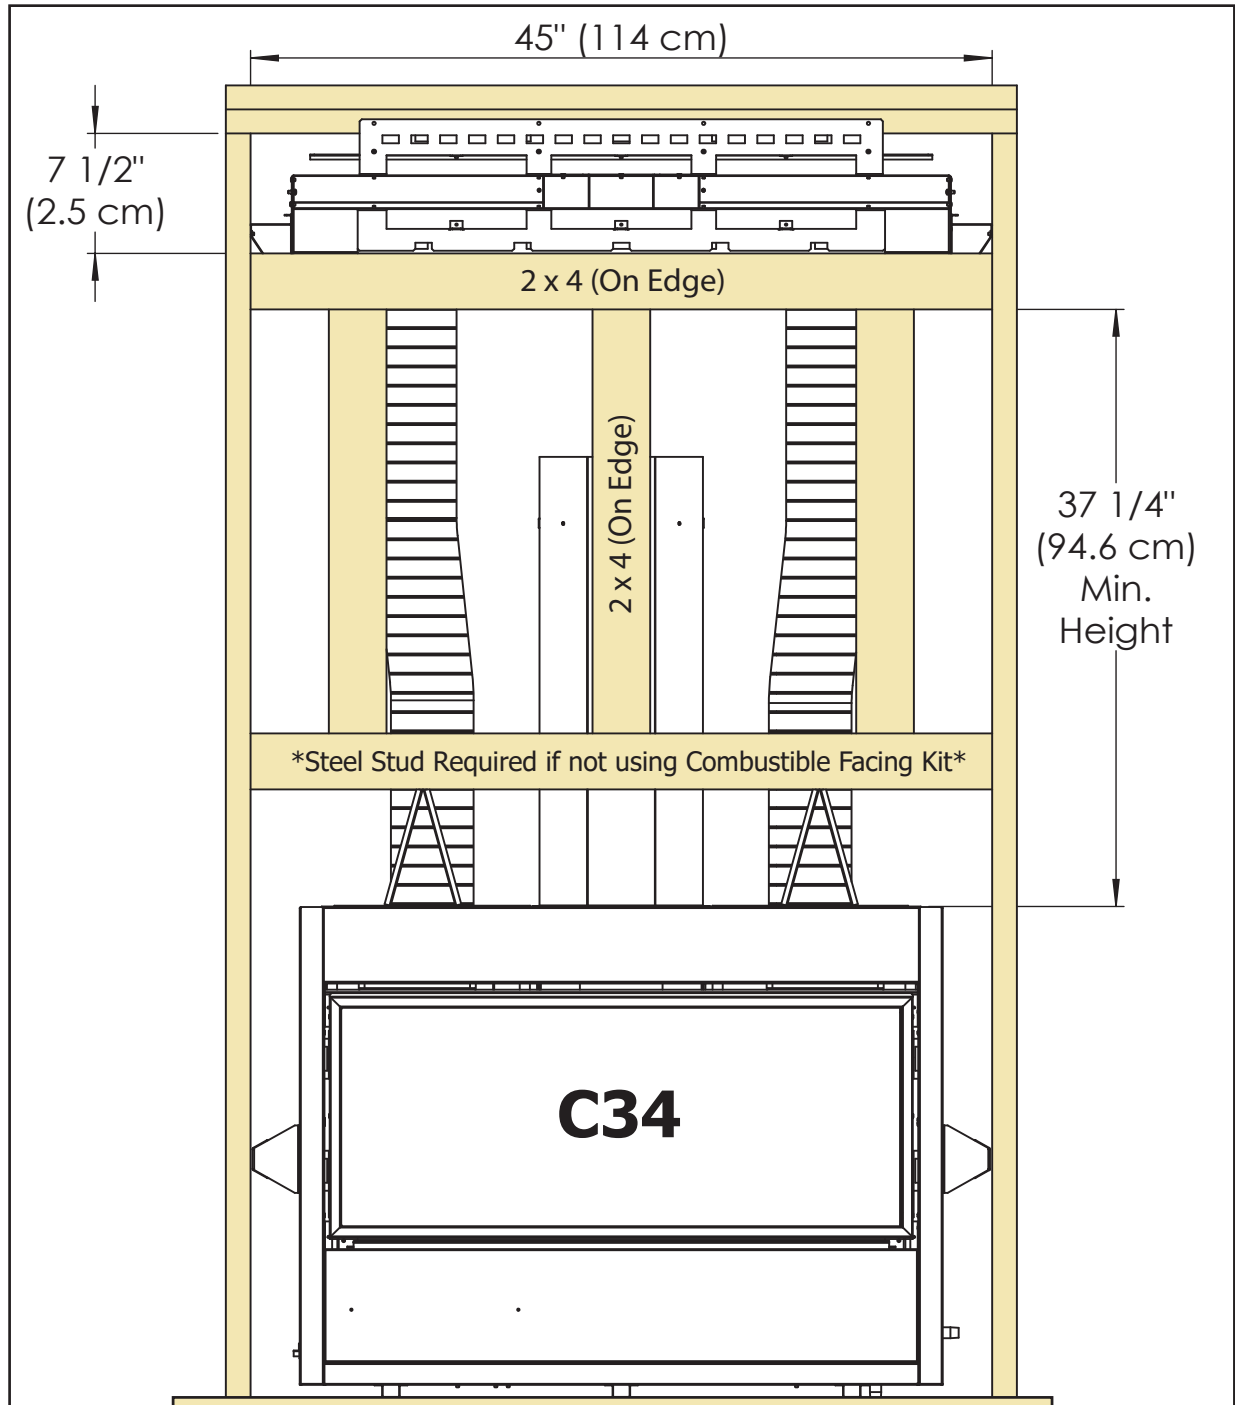
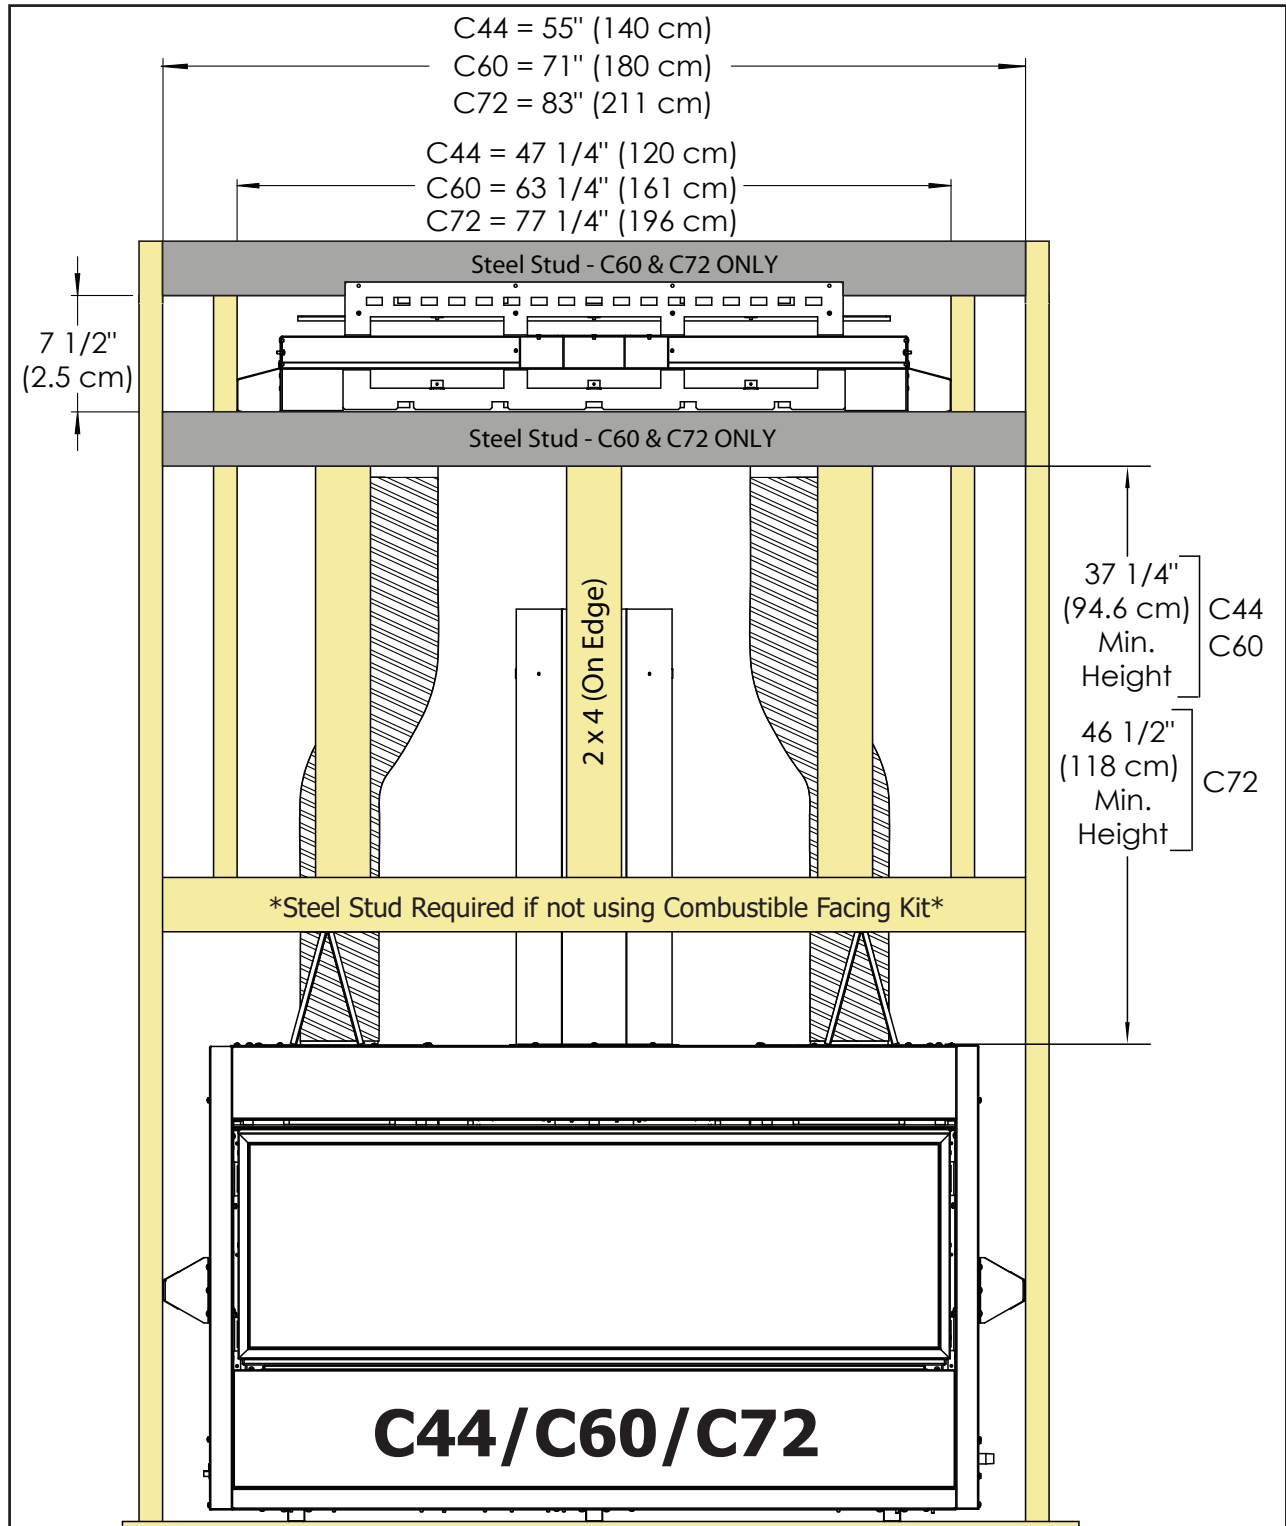

Figure 8: C34 - CSS Framing & Rough Opening
Figure 9: C44/C60/C72 - CSS Framing & Rough Opening
Refer to Figure 8 & Figure 9 for the minimum allowable framing and rough opening of the CSS.
Step 1: Frame in the rough opening for the CSS as shown in Figure 8 & Figure 9 (page 6 & page 7) in the desired location following all required clearances as stated in the FRAMING & CLEARANCES section.